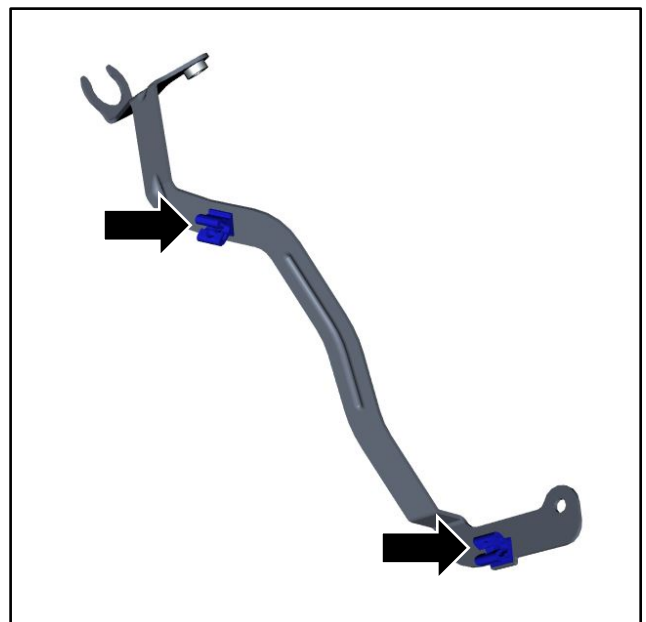

Figure 3
3. Install the new clips to the support bracket installed on the vehicle (refer to Figure 3).